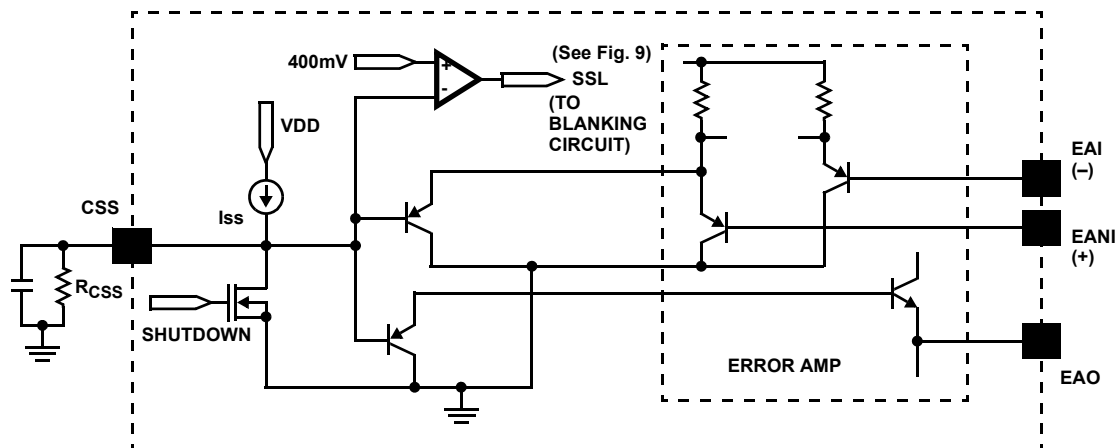

FIGURE 4. SIMPLIFIED CLAMP/SOFT-START
- Both EANI and EAO are clamped by the voltage (V_{clamp}) set at the CSS pin, as shown in Figure 4. Note that the diodes in the functional block diagram represent the clamp function of the CSS in a simplified way.
- The clamping voltage determines the cycle-by-cycle peak current limiting of the power supply. It should be set above the EANI and EAO voltages and can be programmed by an external resistor as shown in Figure 4 using Equation 3.
incorporated. The current ramp is blanked out during the resonant delay period because no switching occurs in the lower FETs. The leading edge blanking function will not be activated until the soft-start (CSS) reaches over 400mV, as illustrated in Figures 4 and 9. The leading edge blanking (LEB) function can be disabled by tying the R_LEB pin to VDD, i.e., LEB=1. Never leave the pin floating.